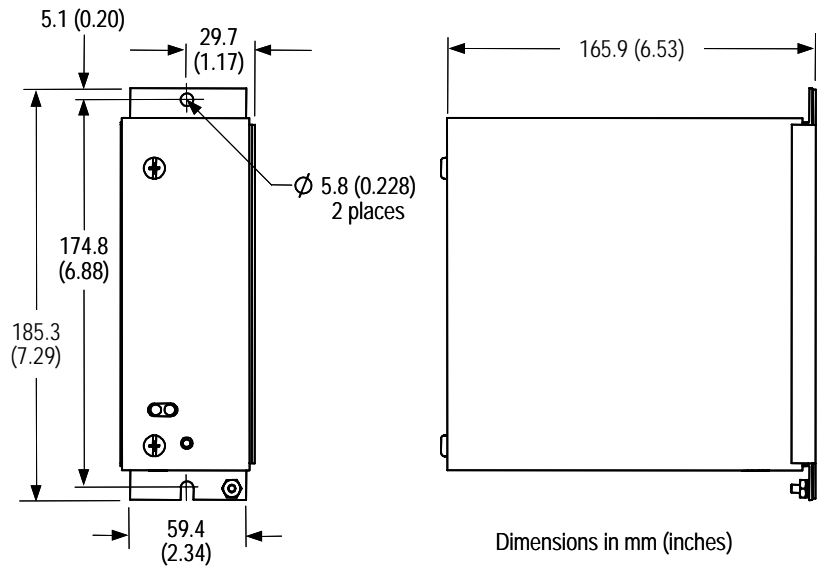

Figure 1.3 – Mechanical Dimensions
The IntelliVAC control modules are mounted using two (2) screws (see Figure 1.3). They are typically located in the low voltage control panel of the medium voltage controller (Bulletin 1500/1900 controllers, in the case of Rockwell Automation).